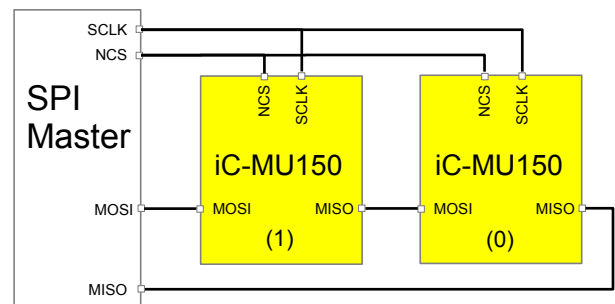

Figure 24: Example configuration with 2 Slaves (daisy chain)
Using the **ACTIVATE** command, the register and sensor data channels of the connected slaves can be switched on and off. The command causes all slaves to switch their RACTIVE and PACTIVE registers between MOSI and MISO and set them to 0 (slaves in daisy chain connection, Figure 24). The register and
An example for a daisy chain wiring of 2 SPI slaves is given in Figure 24. In order to do register communication (**Read REGISTER (single)**, **Write REGISTER (single)**, **REGISTER status/data**) with e.g. slave (1) the register communication has to be enabled explicitly for this slave and disabled for slave (0) with command **ACTIVATE** and parameter **RACTIVE**.